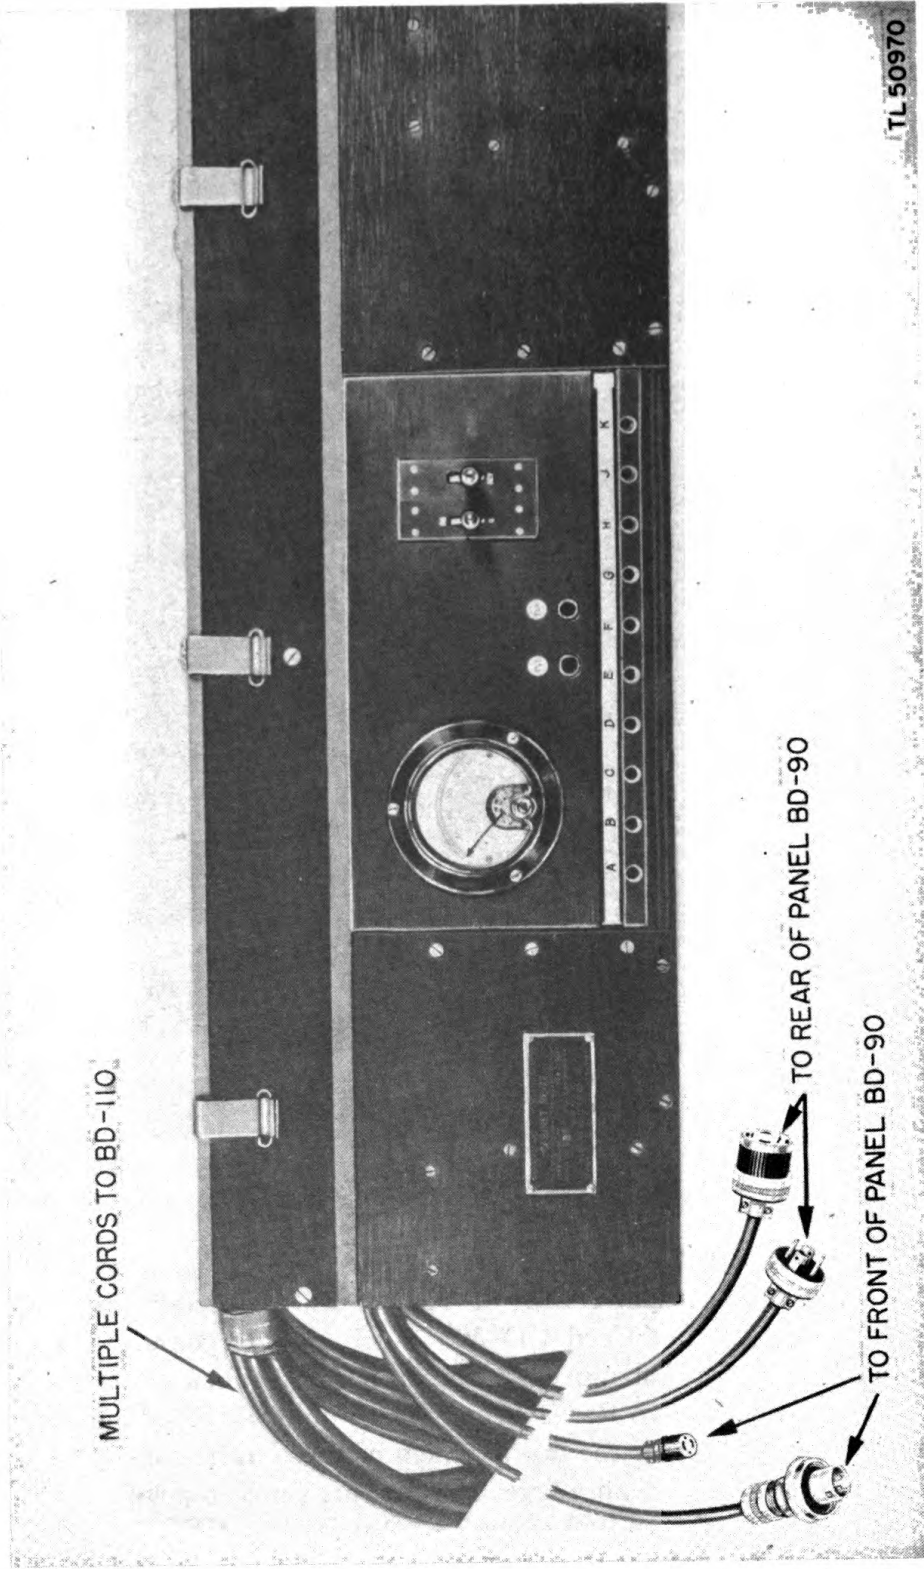
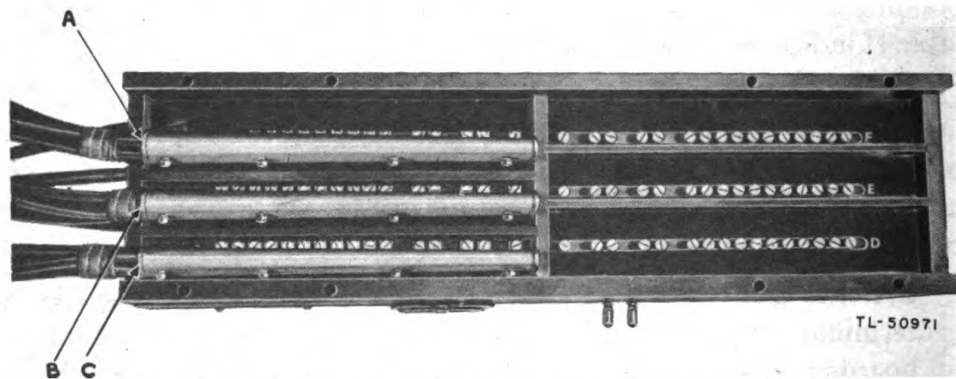

Figure 11. Cabinet BE-72, front view.
Figure 18. Cabinet BE-72, showing method of connecting spade terminals to binding posts.
a. Cabinet BE-72 (fig. 11). In use, Cabinet BE-72 is mounted on top of a centrally located Switchboard BD-110-(). In this position, it serves as a distribution point for the power and alarm leads and as a test panel for the cord circuits and line circuits of Switchboard BD-110-(). Four cables attached to Cabinet BE-72 are connected by plugs and receptacles to the power and alarm circuits at Panel BD-90. These cables are connected in Cabinet BE-72 to a series of binding posts located in the top of the cabinet. Spade terminal strips attached to cables from each Switchboard BD-110-(), when connected to these binding posts (fig. 18), extend the power and alarm leads to the switchboard, and interconnect the telephone circuit grouping leads between switchboards. On the face of the cabinet is mounted equipment associated with the switchboard test circuit and the voltmeter test circuit. The switchboard circuits may be given routine tests by using jacks A to J. These tests are covered in detail in paragraph 31. The equipment located above these jacks is associated with the voltmeter test circuit. The lines and trunks connected to Switchboard BD-110-() may be tested by using this circuit. An additional feature permits ringing the bells on a line having a receiver off the hook if the bells are connected between either side of the line and ground. These tests are covered in detail in paragraph 31.
d. Connect the power distributing (small) terminal strips, which are a part of Switchboards BD-110-(), to the proper row of binding posts of Cabinet BE-72 as indicated in table III. (See fig. 18).